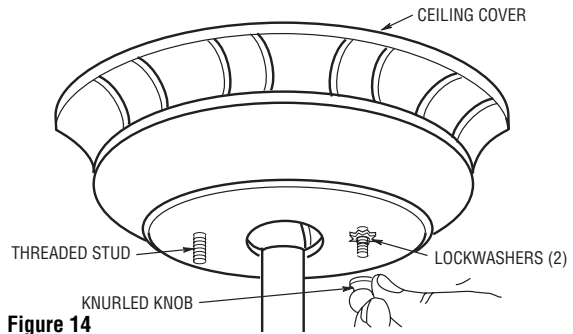

Figure 14
- 6. Lift the ceiling cover up to the threaded studs and turn until studs protrude through the holes in the ceiling cover (Figure 14).
- 7. Secure the ceiling cover in place by sliding lockwashers over the threaded studs and installing the two knurled knobs (supplied). (Figure 14). Tighten the knurled knobs securely until the ceiling cover fits snugly against the ceiling and the hole in the ceiling cover is clear of the downrod. Your fan is now wired to be turned on and off from the fan switch.